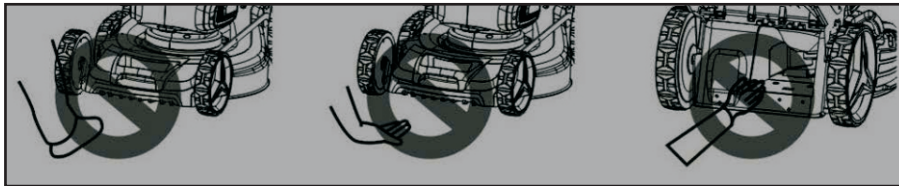

Fig. 11C
5. Never place your hands or feet underneath the under pan or into the rear discharge chute while the motor is running. (Fig.11C)